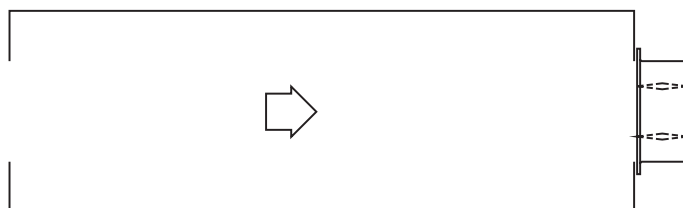

**Figure 5.3**
**Figure 5.3** Illustrates a fully ducted damper. This configuration has the lowest pressure drop of the three test configurations because entrance and exit losses are minimized by straight duct runs upstream and downstream of the damper.